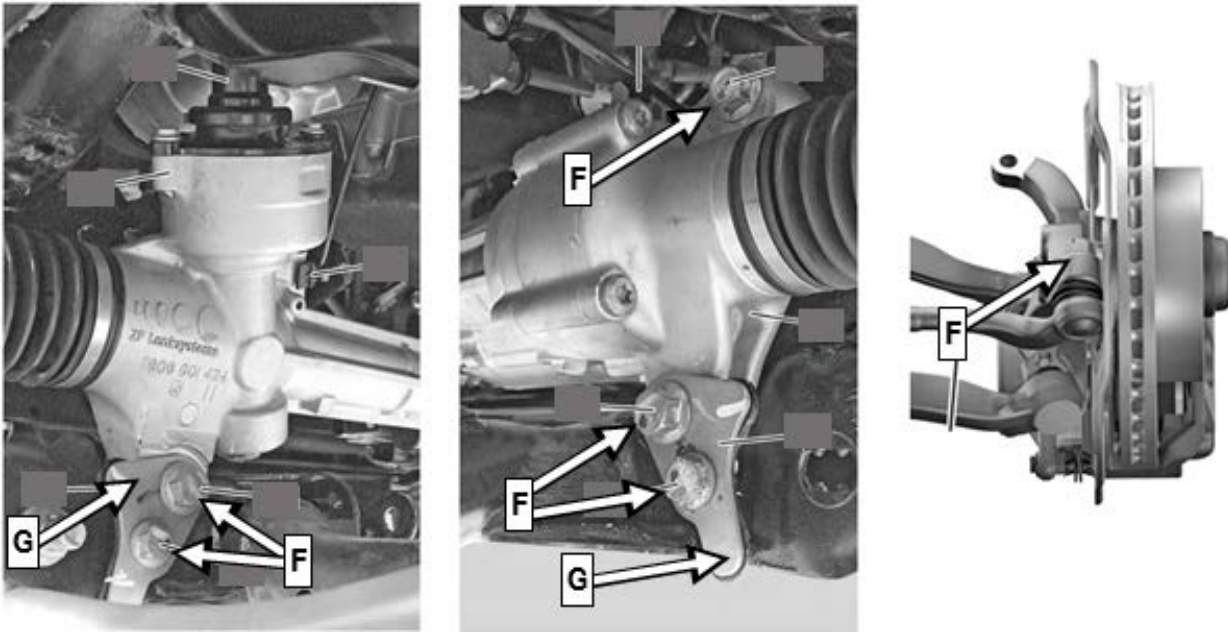

Figure 6
3. Unscrew steering from front axle carrier and tie rods at the steering knuckles (**F, Figure 6**).
- i** Remove retaining plates (**G, Figure 6**).